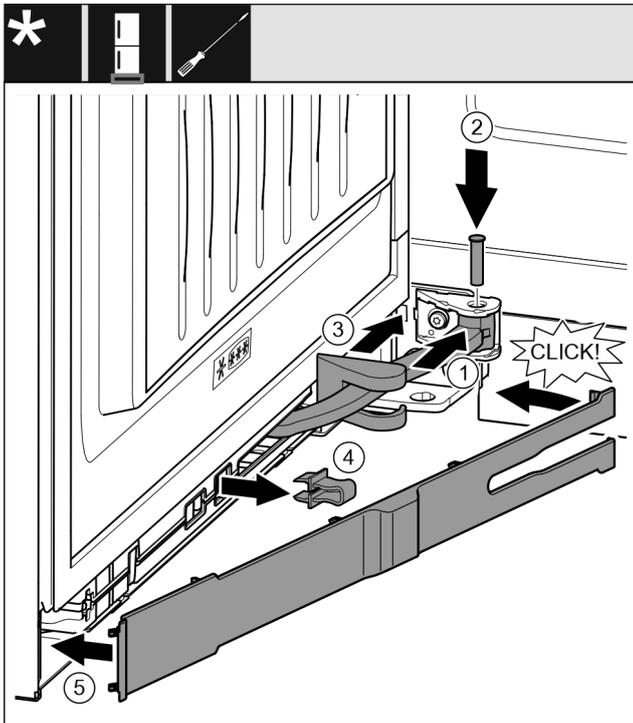

Fig. 53
- ▶ Turn the joint Fig. 53 (1) in the attachment.
- ▶ Use a screwdriver to insert the bolt Fig. 53 (2) into the attachment and the joint. Ensure that the latching cam is in the groove properly.
- ▶ Push the swap bearing block cover Fig. 53 (3) along the joint and use the attachment to fit it.
- ▶ Remove the safeguard Fig. 53 (4).
- ▶ Place the trim Fig. 53 (5) on the handle side and swing in.